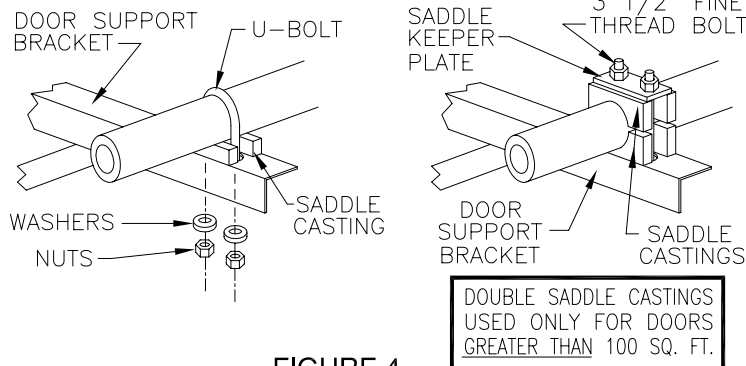
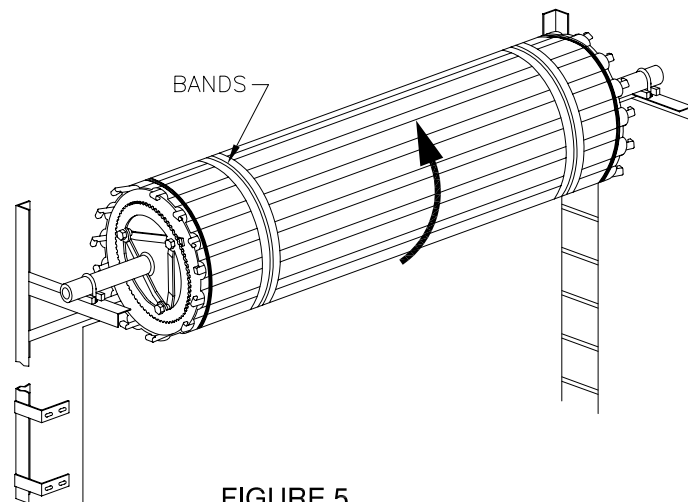

FIGURE 4
FIGURE 5
- 4A PLACE SADDLE CASTING ON DOOR SUPPORT BRACKET. LAY AXLE IN SADDLE CASTING AND PLACE U-BOLT OVER AXLE AND THROUGH SADDLE CASTING AND BRACKET AS SHOWN IN FIGURE 4.
- 4B INSTALL PLATE, WASHER AND NUTS AS SHOWN IN FIGURE 4 AND TAKE VERY GREAT CARE TO TIGHTEN BOTH NUTS VERY TIGHTLY TO A TORQUE OF 40 FOOT POUNDS. (THIS IS A 40 POUND PULL AT THE END OF A 12" WRENCH.)
- 4C ATTACH CHAIN HOIST (IF SUPPLIED) TO DOOR SUPPORT BRACKET USING (4)- 3/8" DIAMETER HEX HEAD BOLTS. POSITION ROLLER CHAIN ON PERIMETER OF BOTH SPROCKETS. ADJUST HEIGHT OF HOIST BRACKET SO CHAIN IS TAUNT (NO SLACK) AND TIGHTEN THE MOUNTING BOLTS. NOW INSTALL THE HAND CHAIN ON THE CHAIN WHEEL.
- 5A APPLY TENSION TO SPRINGS BY ROTATING DOOR TWO (2) COMPLETE TURNS IN A FORWARD DIRECTION (SEE FIGURE 5). BOTTOM ANGLE SHOULD BE IN A DOWN POSITION (6 O'CLOCK).